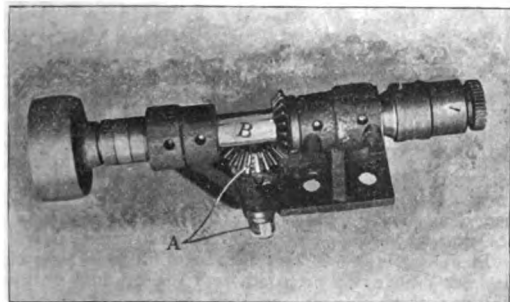

FIG. 3.
Fig. 3 illustrates the apparatus as it would be bolted on dowel of bottom slide (surfacing); but to be correct, the cone mandrel (B) should be reversed, and the bevel wheel and driving pulley withdrawn, as previously explained.